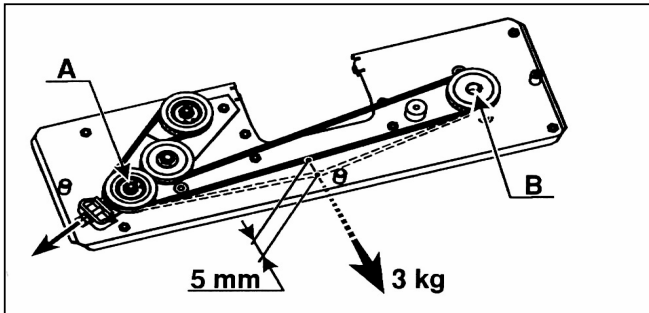

Fig. 36
MOWER DECK BELT (Fig. 36)
5. Adjust nut M10 until the specified tension from center of cog belt from pulley A to pulley B is reached (See Fig. 36).
Mower cog belt	See Fig. 36